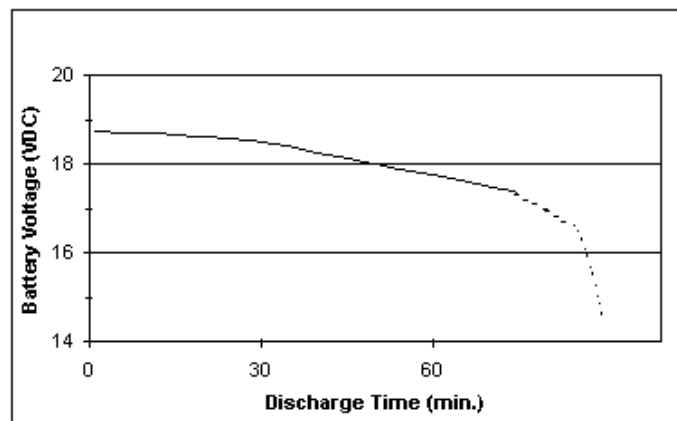

Fig. 2.5: Nominal Battery Discharge Rate at 20°C
When the instrument switches to Power Loss Warning, the amber LED flashes for approximately one minute. This is intended to attract the pilot's attention and indicate that there has been a loss of primary power to the 4300 Attitude Indicator. Pushing the STBY PWR button on the face of the instrument will allow the unit to continue operating on the standby battery for nominally one (1) hour or until the battery is exhausted. See Fig 2.5 for more information on battery discharge rate. The gyro warning flag remains out of view, which indicates the gyroscope is valid and running on standby battery power. An independent standby dial lighting system also operates in this mode.